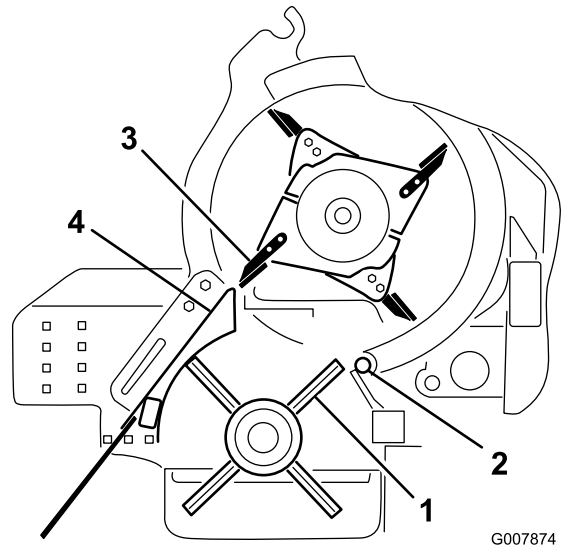

Figure 60
4. Rotate the brush pulley until a brush row is aligned with the rotating corner (Figure 60).
5. Rotate the chopper until a blade tip is aligned with the outside of the brush housing (Figure 60).